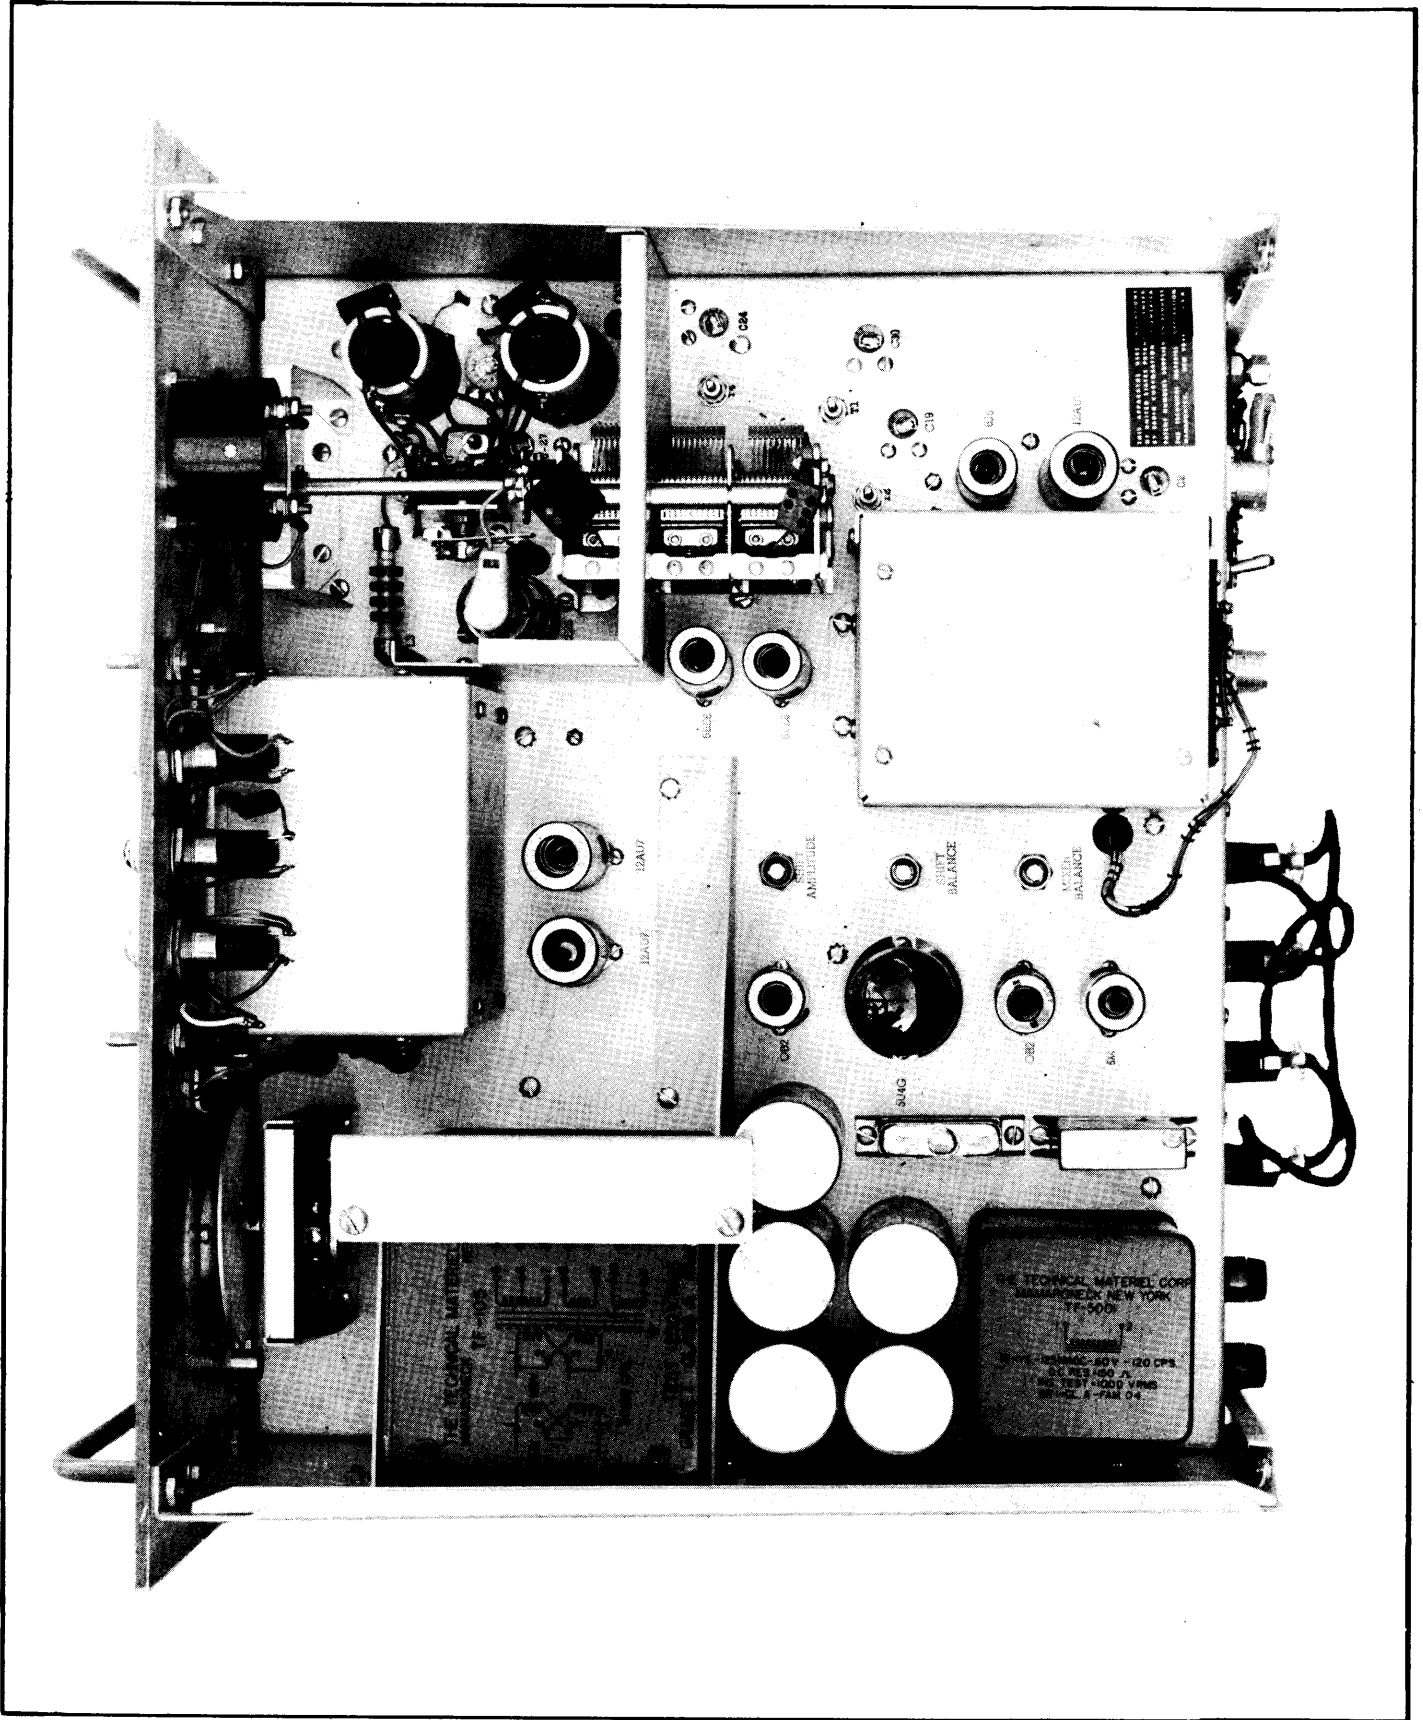

Figure 4-1 Top View
(2) REPLACEMENT OF TUBES.- The Location of all tubes in the XFK is indicated in Figure 4-1. The tubes may be checked visually to see if they are lighted, or for warmth. When necessary the tubes should be carefully removed and tested, and when replaced care should be taken to install tube shields.